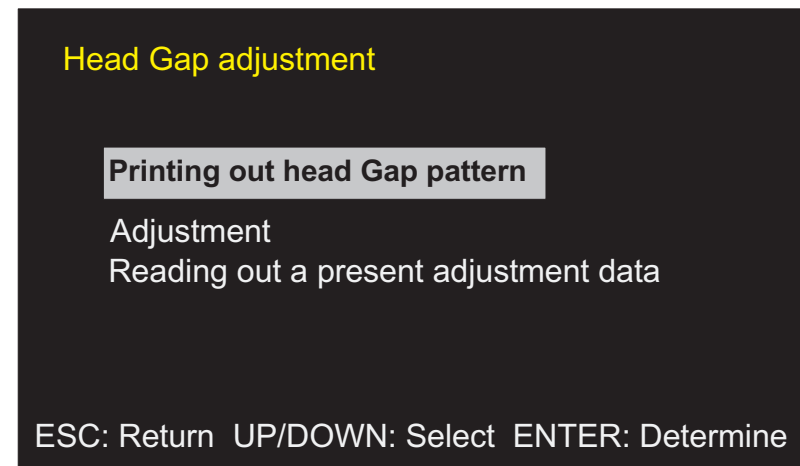
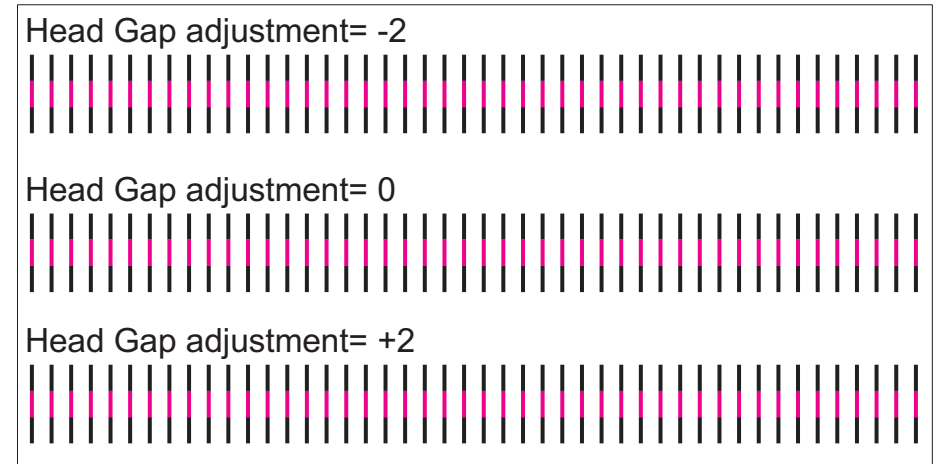

Figure 5-35. Screen After Selecting the Head Timing Gap Adjustment
Figure 5-37. Printing Sample for Checking the Head Gap
Step14. Following printing result is output. (After the printing is over, the screen returns to the screen of figure5-35)It is not necessary to perform this adjustment, if each black line and magenta line make one straight line just like Head Gap adjustment=0 in the figure5-37.
- Step15. Tendency of changes for the parameter and printing samples is seen as following, by referring to figure5-37.
- Step21. The printer prints out 3 patterns(initial value -2/initial value/initial value+2) based on the newly selected parameter as initial value. (Printing sample like figure5-37 is output)